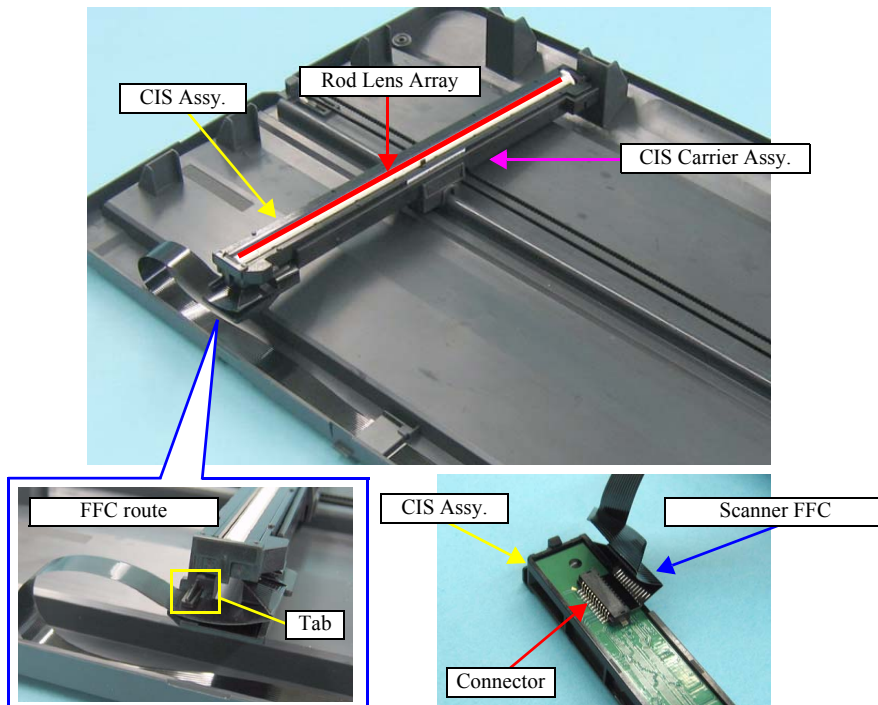

Figure 4-97. Removing CIS Assy.
- When installing the CIS Assy. to the CIS Carrier Assy., connect the Scanner FFC and route the FFC under the tab of the CIS Assy. (refer to Figure 4-97)